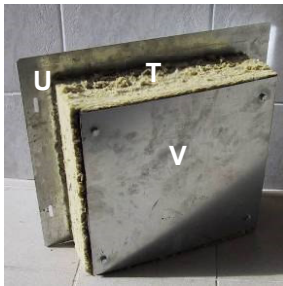

Fig: 8
- Cut a section of mineral wool (T) to size to fit the hatch opening. Please refer Fig.8
- Insert the mineral wool (T) between the cover plate (U) and the inspection hatch rear panel (V) as shown in Fig. 8 using the hexagon-head bolts supplied.
- Fit the inspection hatch cover (W) and secure with wing nuts.